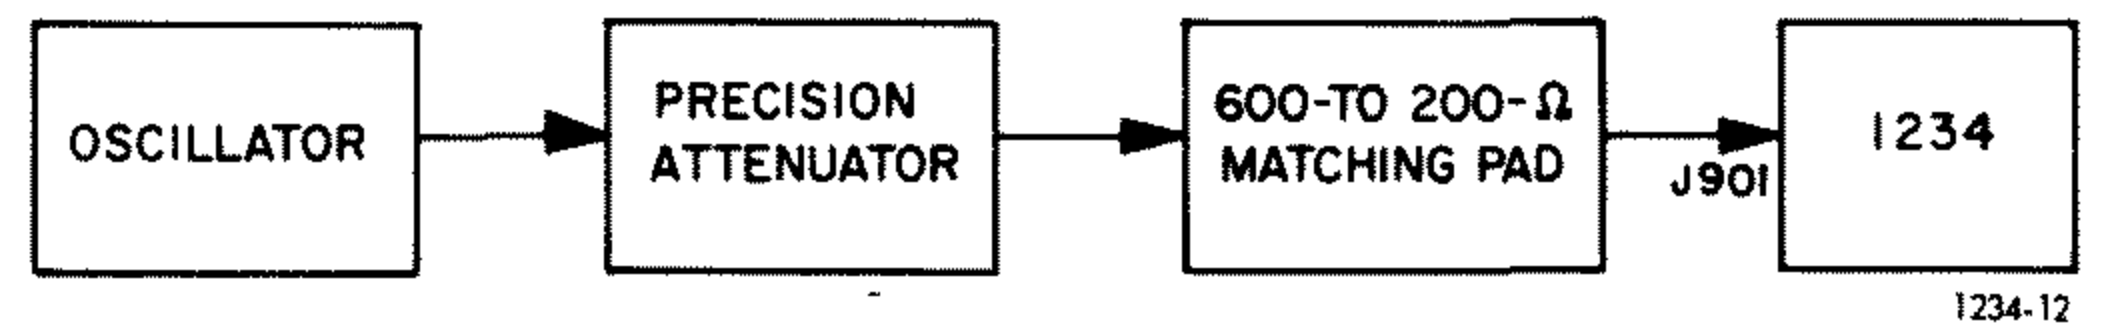

Figure 5-2. Test and calibration setup for 1234 SWR Meter.
c. Connect test equipment to the instrument as shown in Figure 5-2.
\*SOURCE switch set to 200 and test equipment connected to 1234 Standing-Wave Meter as shown in Figure 5-2.
Perform the test and adjustment procedures of paragraphs 5.6.4 through 5.6.10 with setup shown in Figure 5-2 unless otherwise specified.